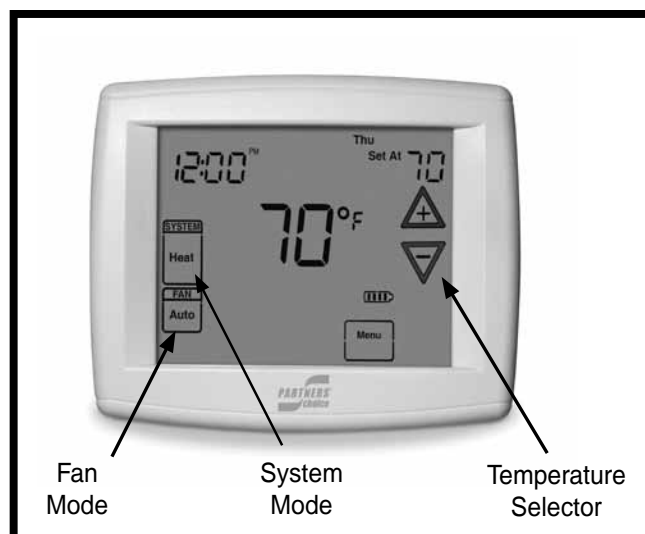

Figure 1. Digital Thermostat
1. Set the thermostat's system mode to COOL or AUTO and change the fan mode to AUTO. See Figure 1.
1. Set the thermostat's system mode to HEAT or AUTO and change the fan mode to AUTO. See Figure 1.
1. Set the thermostat system mode to AUTO and the thermostat fan mode to AUTO. See Figure 1.
The continuous indoor blower operation is typically used to circulate the indoor air to equalize a temperature unbalance due to solar loads, increased occupancy loads, or mechanical equipment operation. Set the thermostat fan mode to ON (Figure 1). The indoor blower starts immediately, and will run continually until the fan mode is reset to AUTO.
Change the thermostat's system mode to OFF and the fan mode to AUTO (See Figure 1). **NOTE:** The system will not operate, regardless of the temperature selector setting.